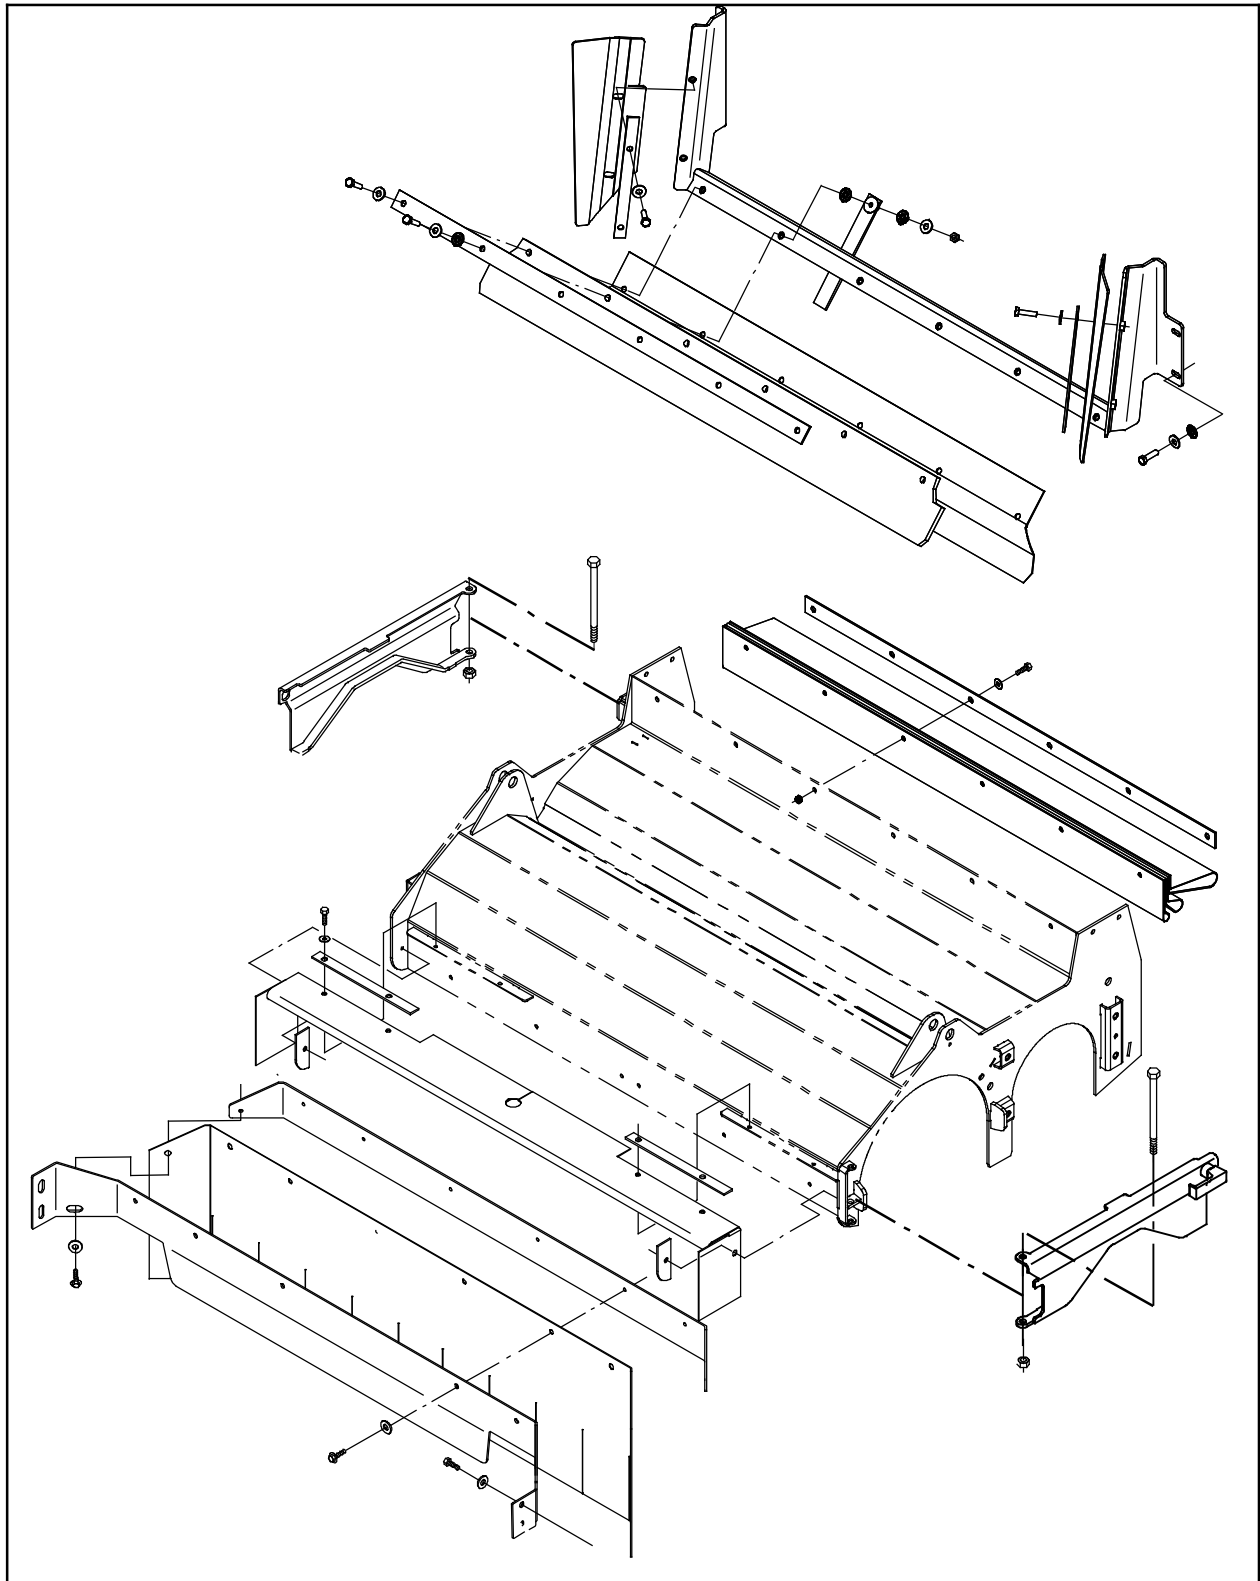
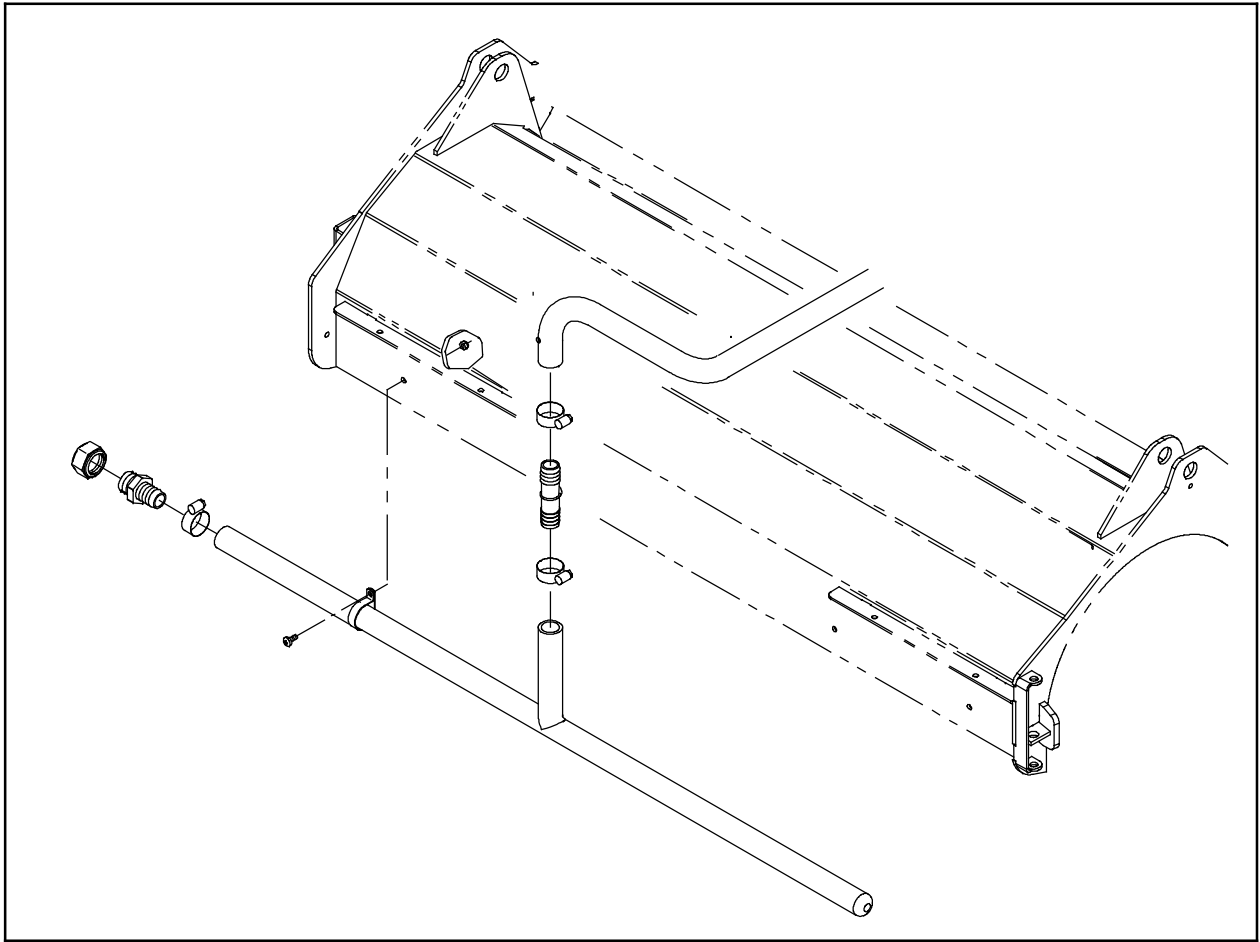

FIG. 6
FIG. 7
16. Remove all components (water supply components, squeegees, skirts, etc...) from the main scrub head. Set all items removed from main scrub head aside. Discard the main scrub head. (Fig. 6 / Fig. 7)